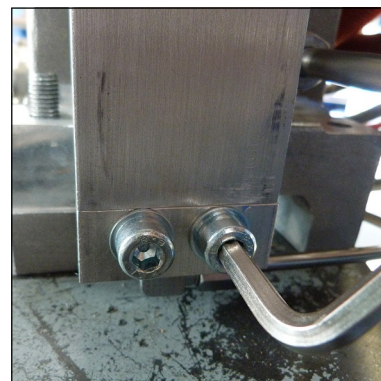

Fig. 1 - Loosen mounting screws
- Loosen mounting screws (Fig. 1) and remove oil filter
- Screw and tighten mounting screws of the oil filter (Fig. 1).